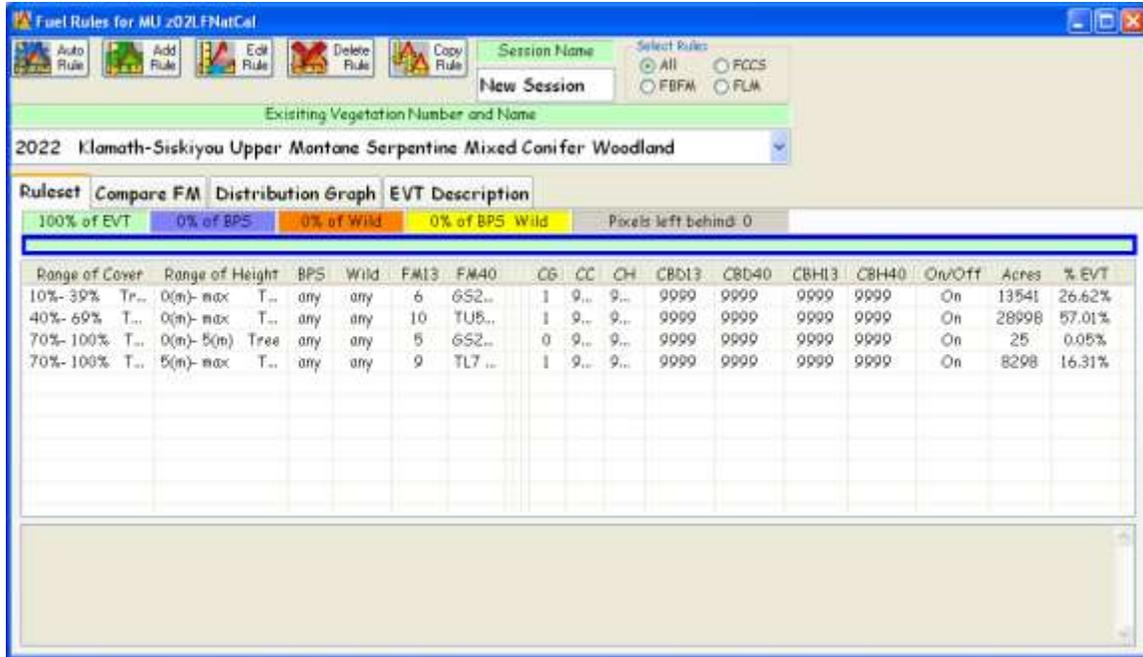

Figure 6-9. FUEL Rules dialog box.
The **Fuel Rules...** dialog box with the **Ruleset** page displayed will open (fig. 6-9).
- (Optional) In the Fuel Rules dialog box (fig. 6-9), add a **Session Name in the box provided** if desired.
- Use the radio buttons at the top right to “**Select Rules**” to view all forms of rules. Accept the default selection “All.” Other options include those applying only to FBFMs, FCCs, or FLMs (fig. 6-9). (See section 7.6.1 for more information).
- Use the drop-down window to select an appropriate “**Existing Vegetation Number and Name**” (fig. 6-9). (This selection allows the user to go directly to the desired EVT and provides information on the dominant species present and type of vegetation that occupies the site). (See EVT Description tab in section 7.6 for additional information.)